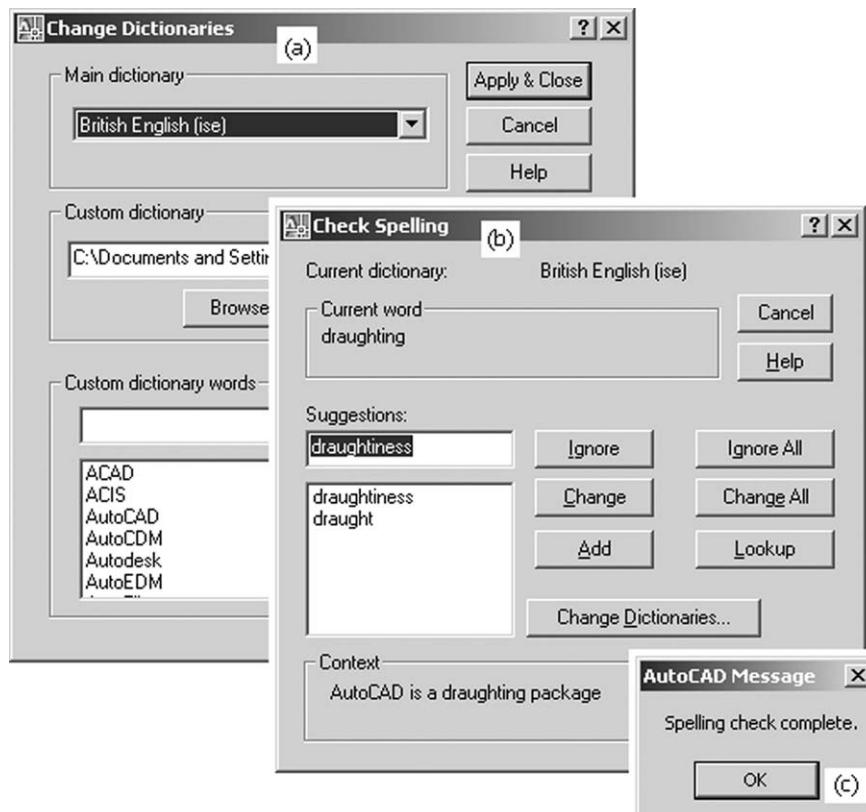

Figure 13.2 The Change Directories and Check Spelling dialogue boxes.
b) pick British English (ise) – Figure 13.2(a)
c) Suggestions: draughtiness – Figure 13.2(b)
prompt AutoCAD Message box – Figure 13.2(c)